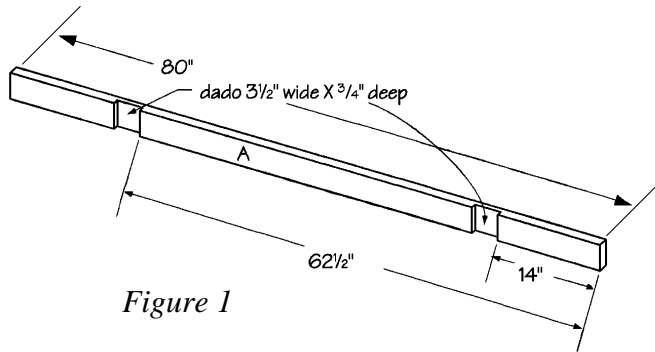
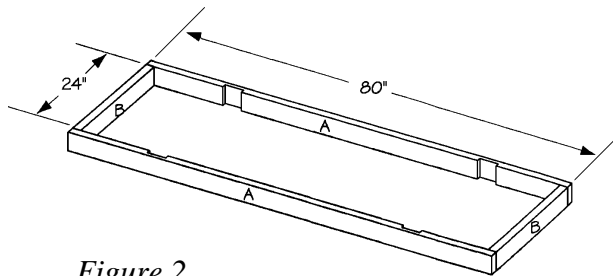

Figure 1
Figure 2
1. Cut two sides (A) from 2 x 4 pine, each measuring 80" long.
2. Cut two dados across the width of side (A), as shown in *Figure 1*. Each dado is 3-1/2" wide and 3/4" deep.
3. Cut two front/back (B) from 2 x 4 pine, each measuring 24" long.
- Place the sides (A) on a level surface, parallel to each other and 24" apart. The dadoed surfaces should be facing each other. Place the two front/back (B) between the two sides (A), as shown in *Figure 2*. Screw through the sides (A) into the ends of the fronts/back (B), using two 2-1/2"-long screws on each joint.